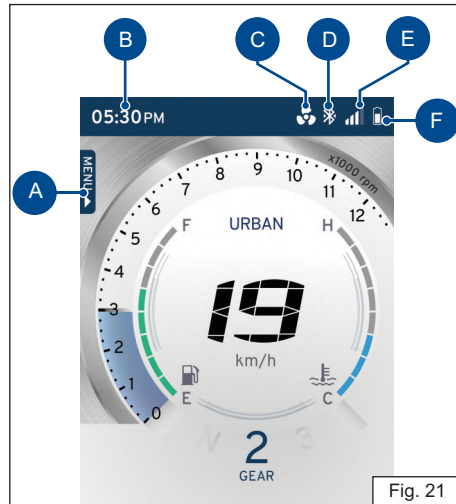

Fig. 21
2) **TFT Multifunction display (ref. Fig. 21)**